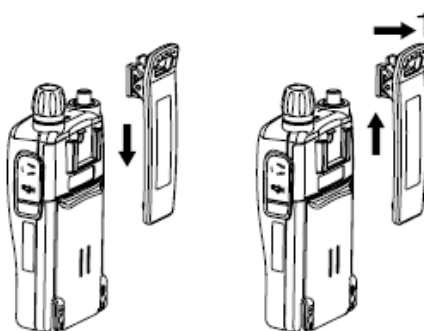

Figure 4-3) Installation and Removing the Belt Clip
- To remove belt clip from radio, push up on tab of belt clip with flat bladed screwdriver and at the same time, slide the belt clip towards the top of Radio (Figure4-3).